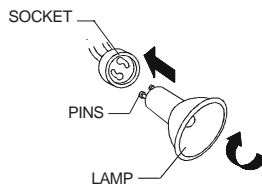
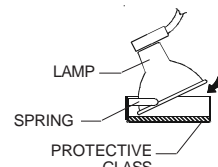

FIG.7
FIG.9
2. **MR16 (120V CMHGX10) HID:** Insert the pins of the lamp base into the socket and rotate the lamp clockwise (Fig.7) and remove the protective glass. (Fig.9)
3. Turn the lamp under spring (if applicable). (Fig.9)
**CAUTION: Lamp manufacturer recommends that the protective glass (Fig.9) be in place before energizing the incandescent lamp. Insure that the lamp is fully cooled before relamping.**